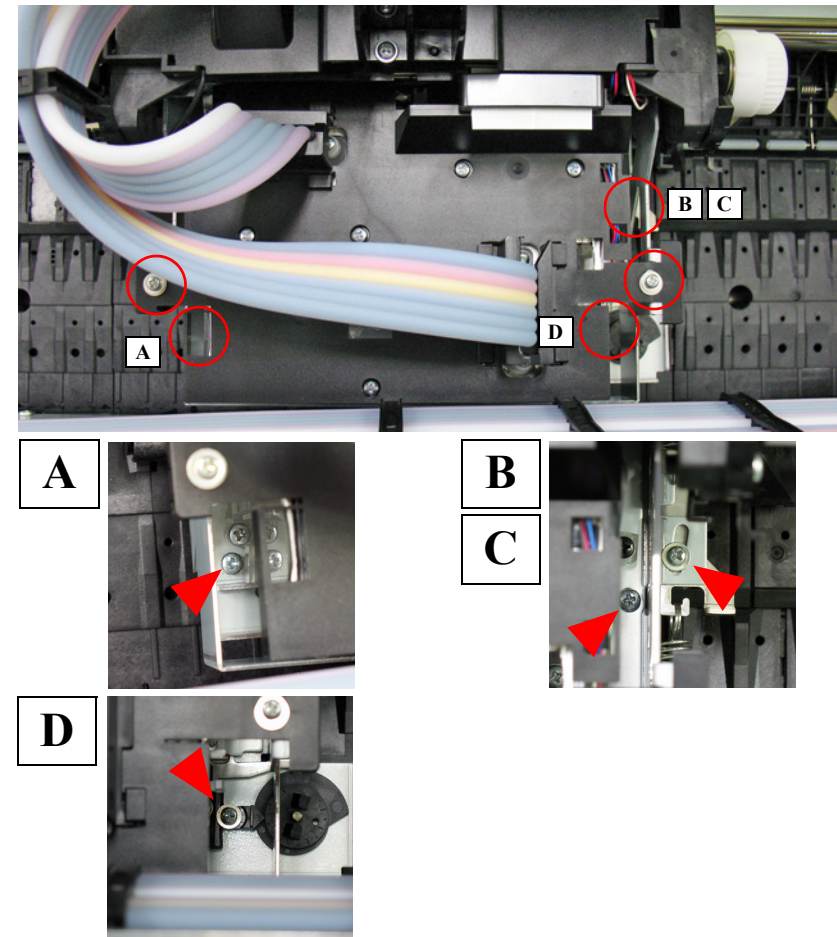

Figure 5-34. Adjustment Screws
7. Loosen the screws (x6) shown in Figure 5-34.